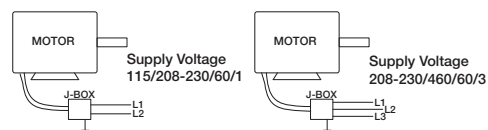

Figure 14 — Typical Wiring Diagram
2. Wire motor for desired voltage per wiring diagram on motor or refer to Figure 14 for connection wiring diagram.